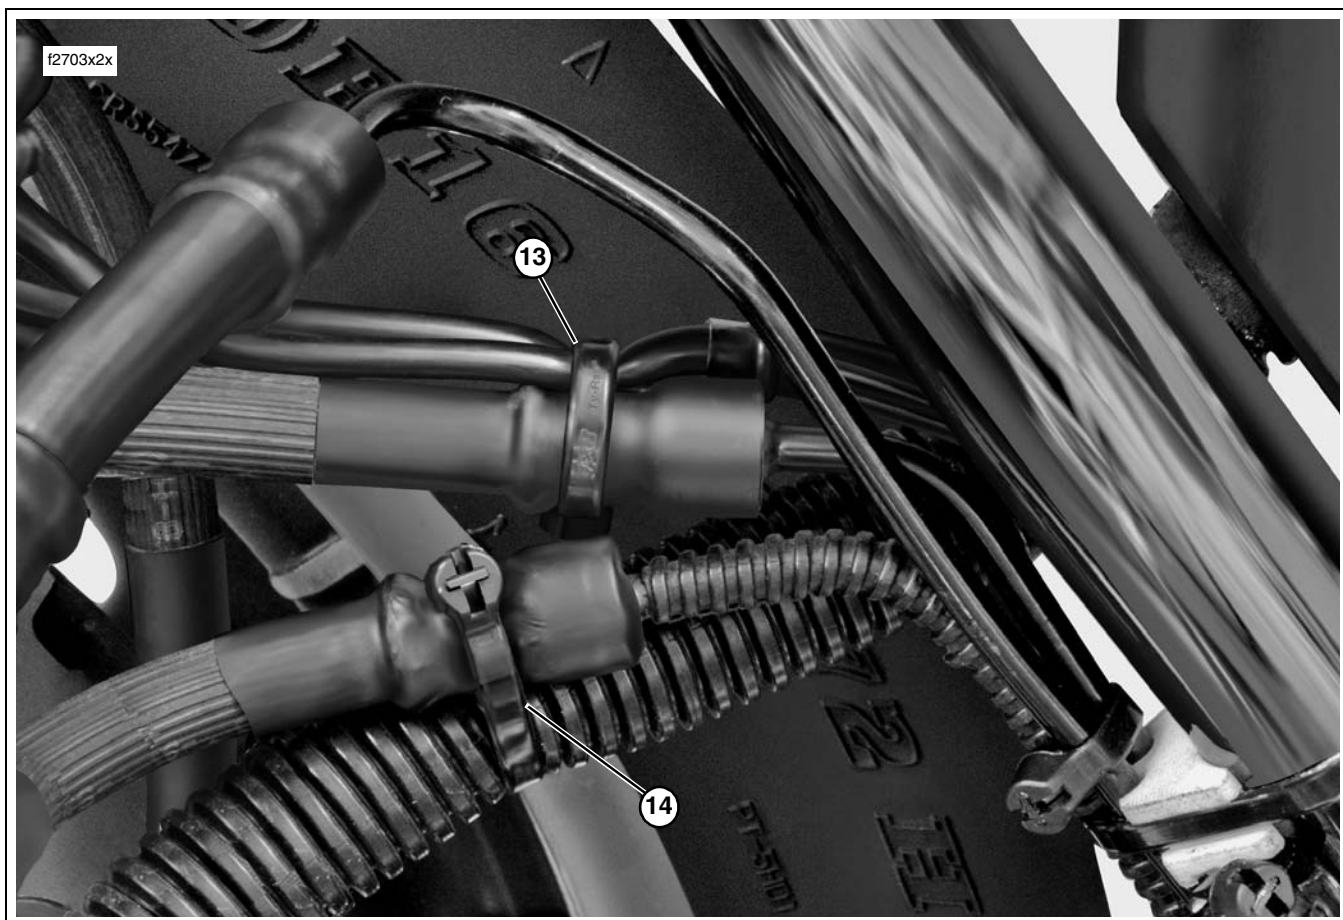

Figure 13. Install Two Cable Straps at Brake Hose Crimps
17. See item 13 of Figure 13. Install **new** cable strap to secure rear brake light switch wires to crimp of brake line hose (from rear master cylinder).
18. See item 14 of Figure 13. Install **new** cable strap to secure crimp of brake line hose (from front master cylinder) to split line tubing on ABS module connector conduit.
Without installing cable straps, verify that brake lines inboard of ABS module are positioned as shown in Figure 13.
23. See item 13 of Figure 13. Install terminals onto rear brake light switch. Install **new** cable strap to secure brake light switch wires to crimp of brake line hose (from rear master cylinder).
24. See item 14 of Figure 13. Install **new** cable strap to secure crimp of brake line hose (from front master cylinder) to split line tubing on ABS module connector conduit.
18. See item 13 of Figure 13. Install **new** cable strap to secure rear brake light switch wires to crimp of brake line hose (from rear master cylinder).
19. See item 14 of Figure 13. Install **new** cable strap to secure crimp of brake line hose (from front master cylinder) to split line tubing on ABS module connector conduit.